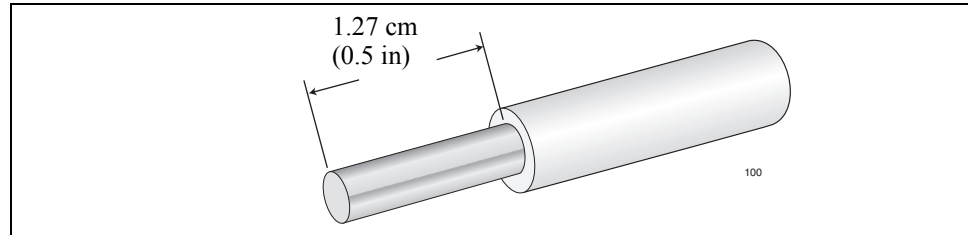

Figure 28. Stripping the Grounding Wire
2. Strip the grounding wire as shown in Figure 28.